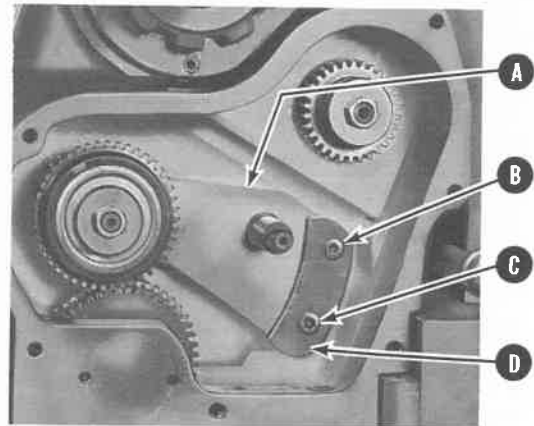

FIGURE 6. End Gear Train
Figure 6 shows the end gear train. Quadrant (A) is adjusted by loosening screws (B) and (C) on plate (D). Adjust so that gears have approximately .003 clearance between teeth.